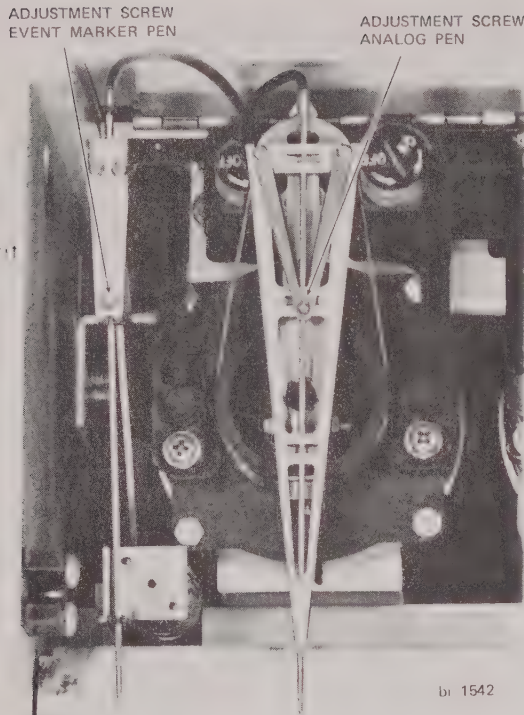

FIGURE 6-7. PEN PRESSURE ADJUSTMENT
5. If pen pressure is not within specified limits, adjust pressure using special pen adjustment wrench (Gould part number 1-120922-18). Refer to Figure 6-7. Turn screw clockwise to increase pressure, counterclockwise to decrease pressure.